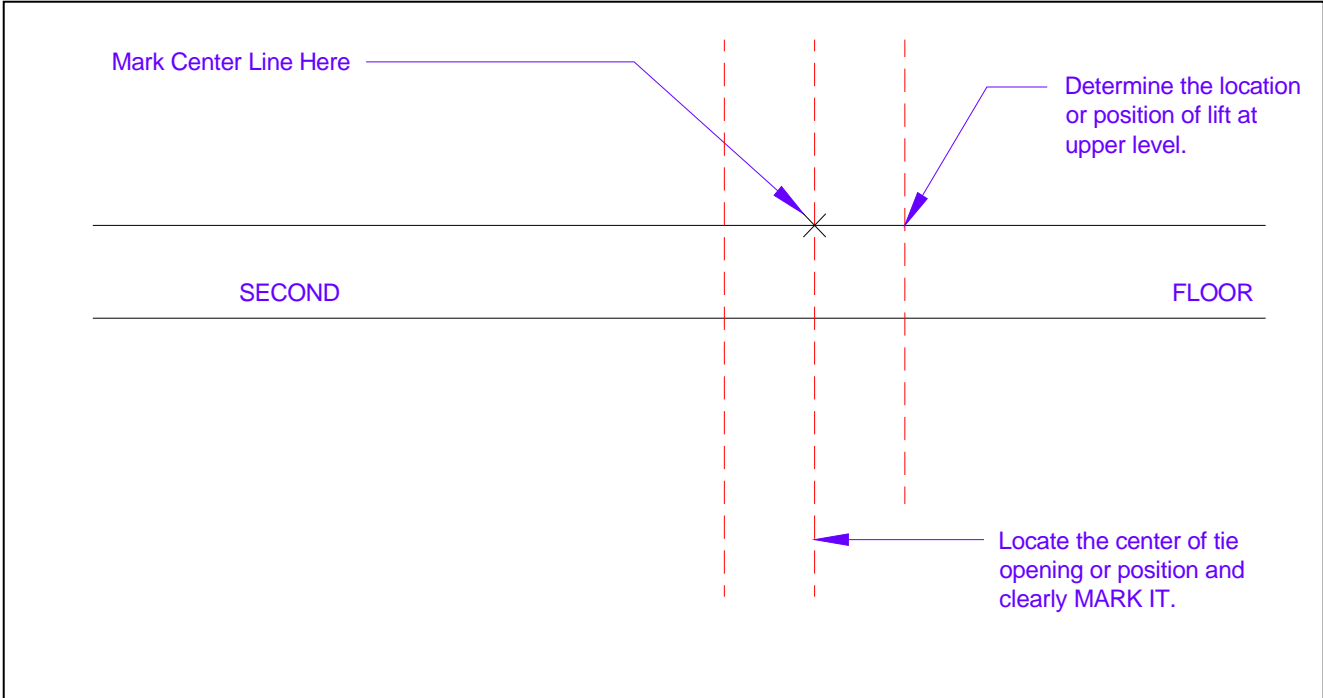

Figure 11 Marking the 2nd Floor for Carriage Position (Front View)
1. Refer to **Figures 11 - 16** to lay out and mark the reference lines so that the lift will clear the upper landing and any obstructions that may be located around the lift (the General Arrangement Record Drawings should indicate the necessary clearance needed for the particular application).
- a. **Figure 11** - Layout the position of the lift at the second level landing/opening, marking the center of the carriage first – then both outside edges of the carriage.